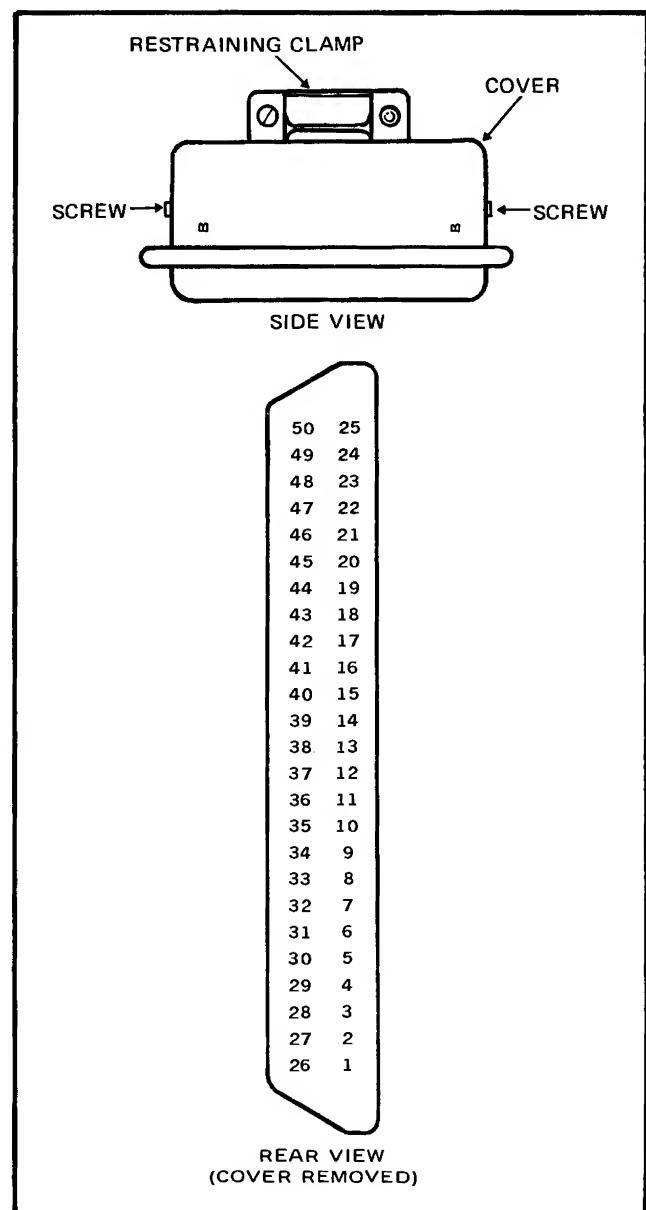

Figure 6-1. PROGRAMMING MATING CONNECTOR
- d. Solder the wiring to the appropriate terminals of the connector. Refer to Figure 6-1 for terminal locations.